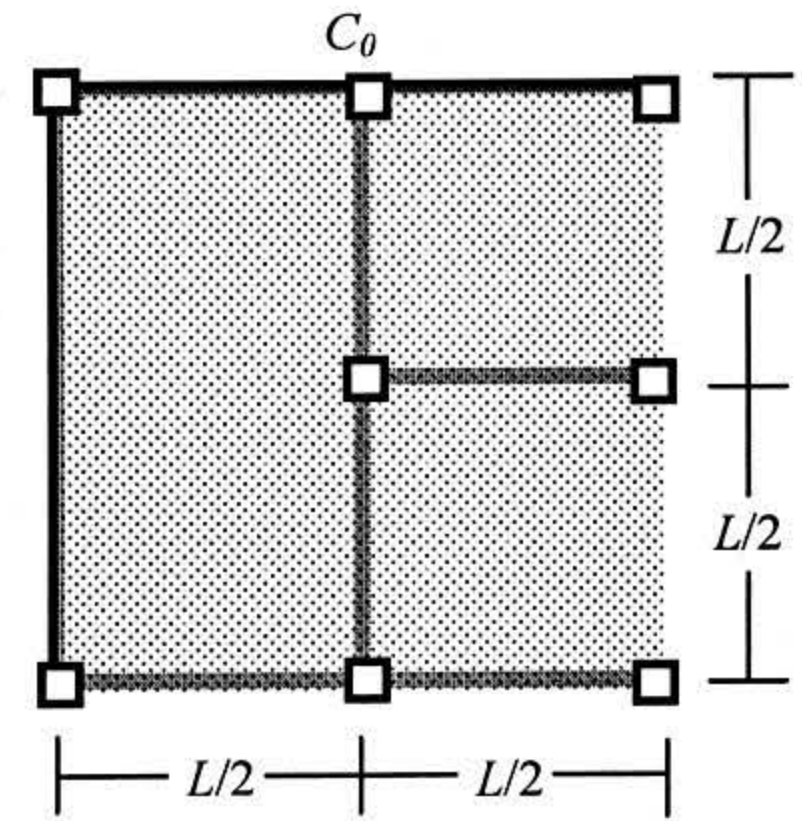

Fig. 6
8. The floor plan of a 34-storied RC frame (with 10' high columns) is shown in Fig. 6. All beams are uniformly loaded at $w_u = 3.4$ k/ft.